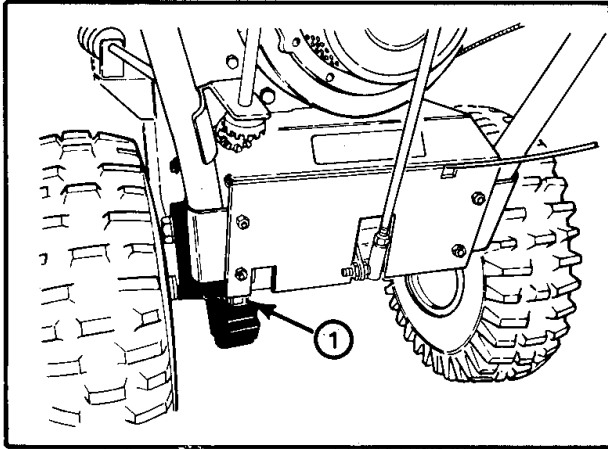

Figure 18
1. Annually, lubricate drive chain with chain lubricant (Fig. 18). Wipe up any excess oil.